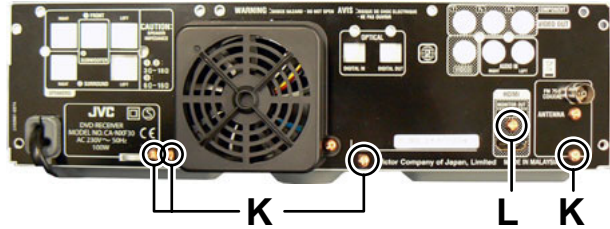

Fig.14
### 3.1.6 Removing the Rear panel (See Fig.14)
### 3.2.5 Removing the tray assembly (See Fig.14 & 15)
- (1) Remove the two screws **J** attaching the clamper base. (See Fig.14)
- (2) Remove the one screw **K** attaching the shaft guide from bottom side. (See Fig.14)